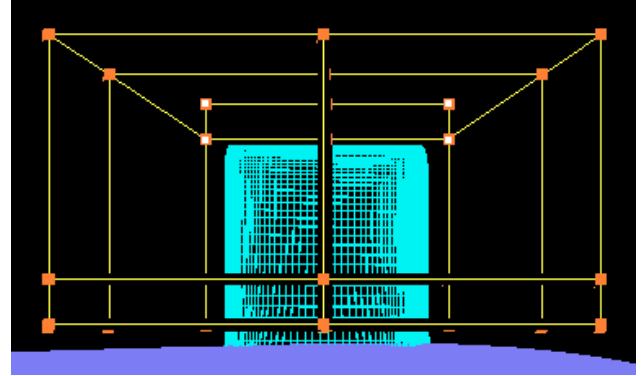

Figure 21.2
- Make an insert on wrap layer as shown in figure 21.2.